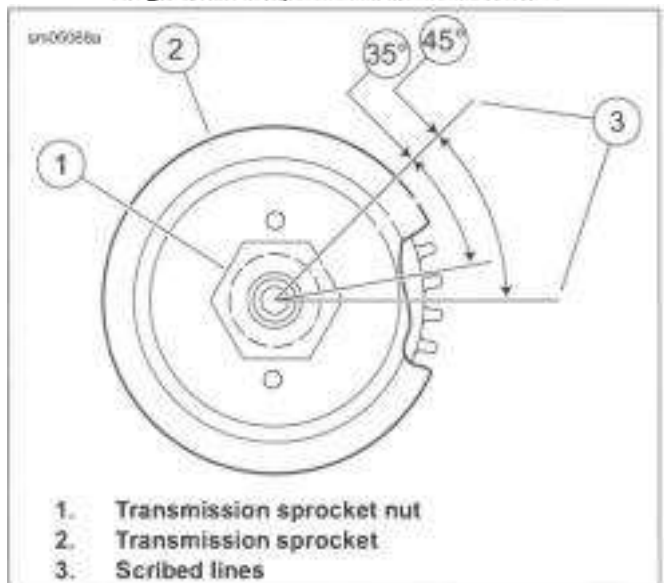

Figure 5-40. Transmission Sprocket Nut Final Tightening
- See Figure 5-40. Scribe lines (3) or use special tool for final torque.